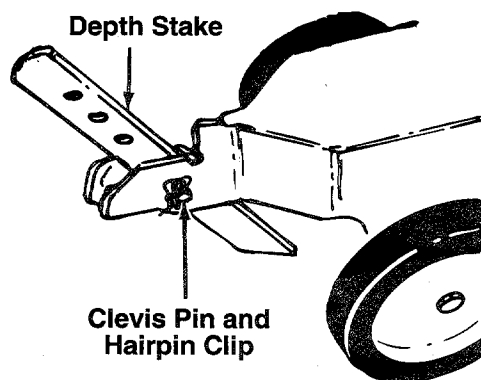

FIGURE 6.
1. Depth Stake Adjustment: The depth stake acts as a brake for the tiller and controls the depth and speed at which the machine will operate. Remove the clevis pin and hairpin clip to raise or lower depth stake. See figure 6.